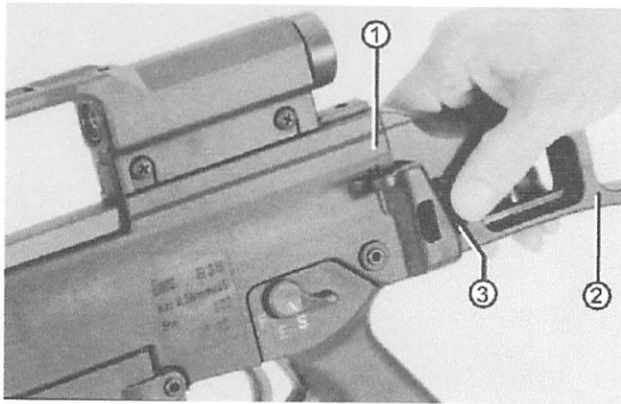

Fig. 8 Folding buttstock
- ⇒ Slightly lift buttstock (1) and draw it off the catch on the cartridge case deflector (2).
- ⇒ Swivel buttstock to the rear until the catch engages (Fig. 8/3).